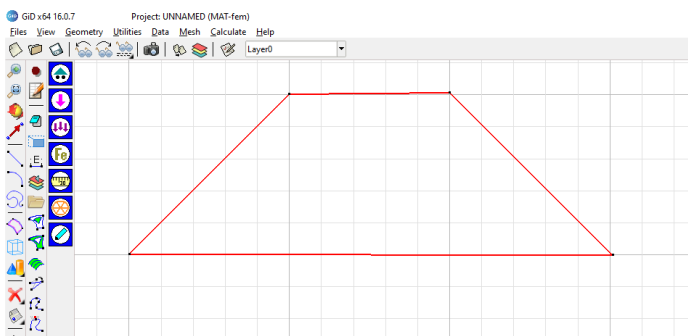

Fig. 19 - Selecting lines to make surface.
2. Click the **Create NURBS surface**  button, select the geometry (Fig. 19); press **Esc** to confirm and check if the surface has been correctly created (Fig. 20).